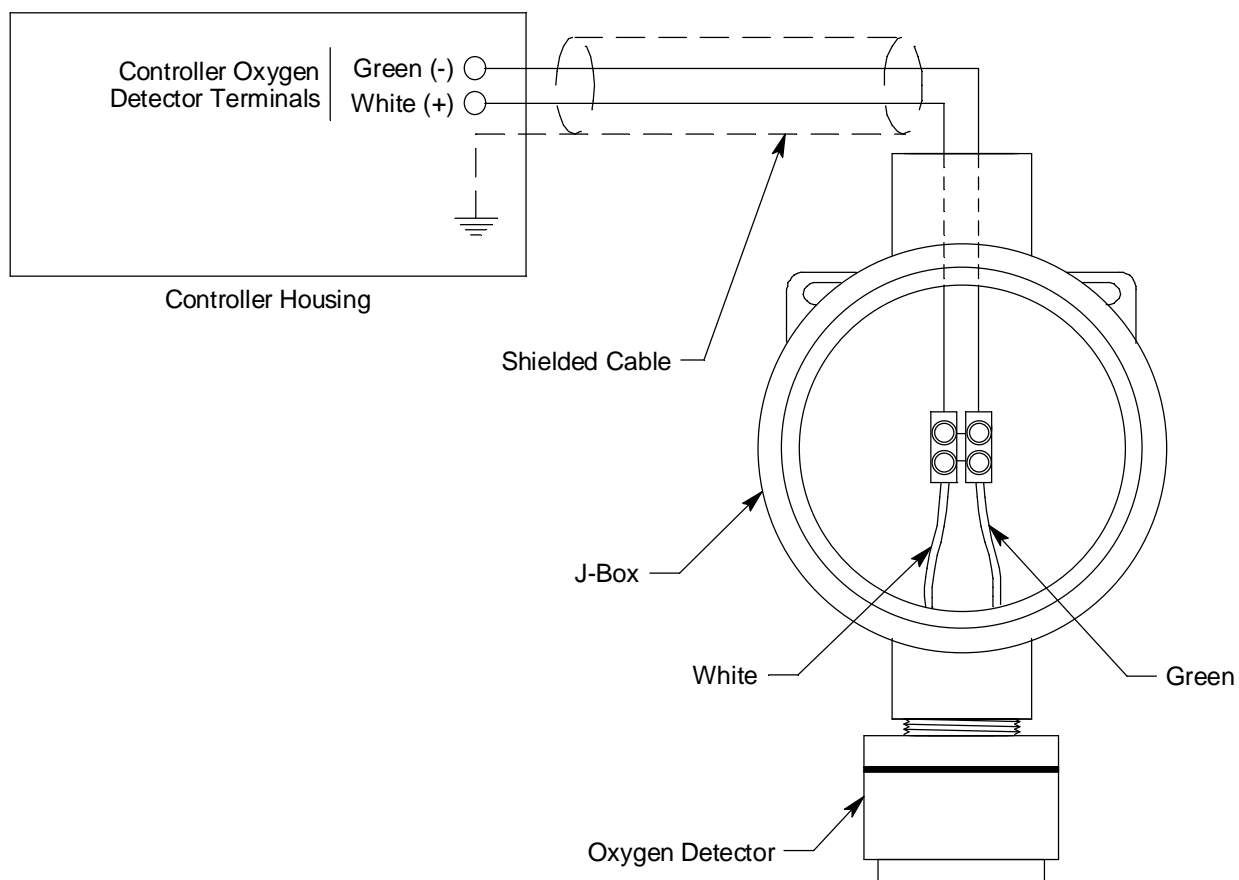

Figure 4: Wiring the Oxygen Detector to a Controller
7. Connect the detector leads to the terminal block the same way the old detector was wired (see Figure 4 on page 5). See the controller operator's manual and the controller's detector head specification sheet for the 65-2497-SS detector to verify the connections to the controller are correct.